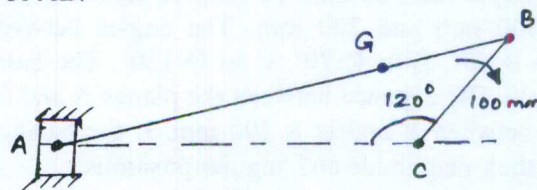

Fig.Q3
- 3 An engine mechanism is shown in Fig.Q3. The crank $CB = 100$ mm and the connecting rod $BA = 300$ mm. With centre of gravity G, 100 mm from B. In the position shown, the crankshaft has a speed of 75 rad/s and an angular acceleration of 1200 rad/s². Find velocity of G and angular velocity of AB, and acceleration of G and angular acceleration of AB.